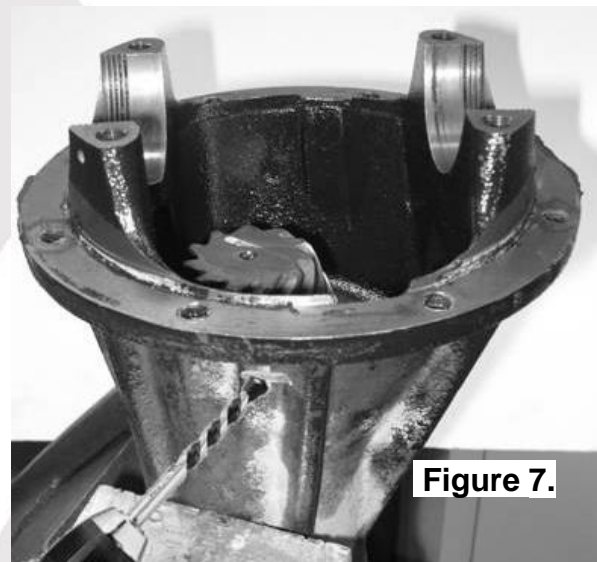

Figure 7.
- Drill an 11.2mm [7/16"] diameter hole through the differential housing square to the outside surface. (Fig.7.)